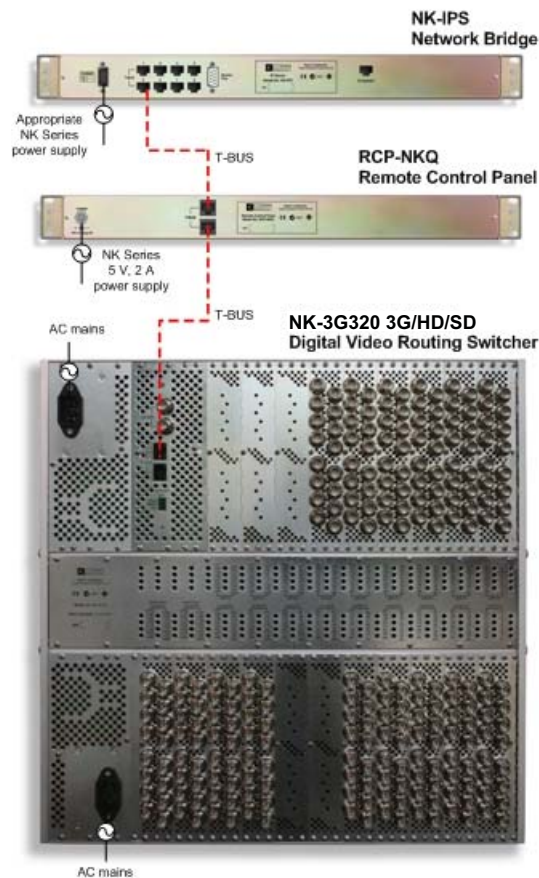

Figure 3.1 NK Series Equipment in a Daisy-Chain Layout
3. Connect a straight-through CAT5 cable between the **T-BUS** connector on the rear panel of the NK-3G320 and a **T-BUS** connector on the rear panel of a remote control panel or other control device, another NK Series routing switcher, or an NK-IPS (see **Figure 3.1**).